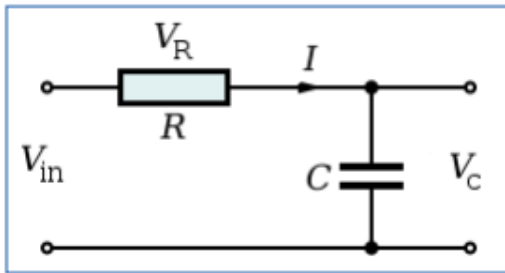
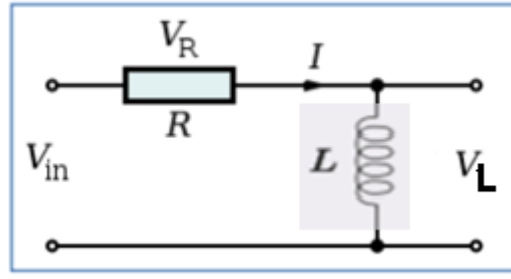

Figure2(System1)
Figure3(System2)
1. Step responses of first order RC and RL circuits are shown in Figure2 and Figure3.
5. Construct RC and RL circuits on breadboard as shown in Figure2 and Figure3. Adjust the function generator to produce 2Vpp Square wave.
1. Construct RC and RL circuit on breadboard as shown in Figure2 and Figure3.